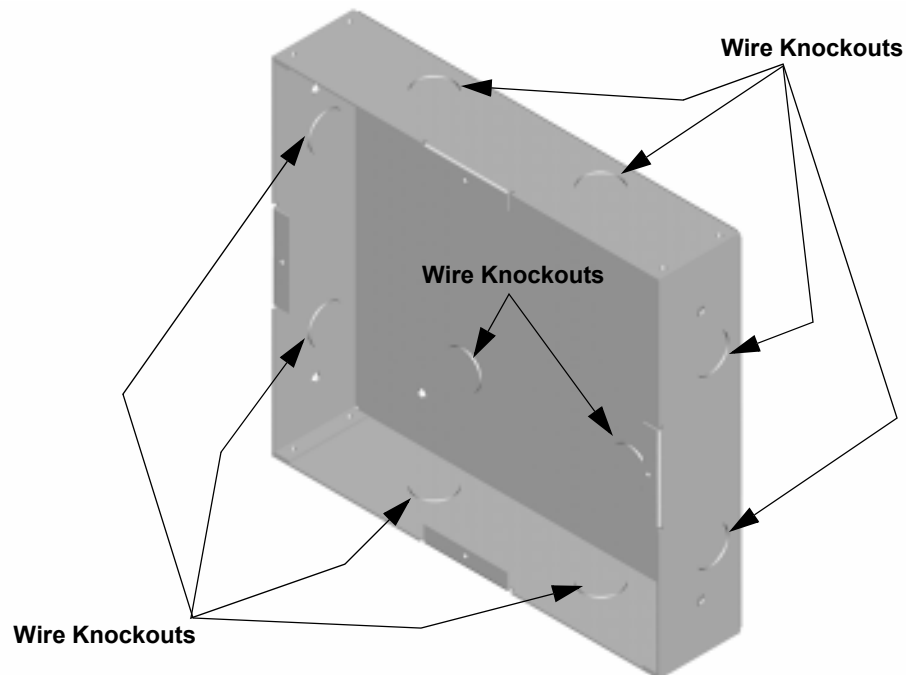

Figure 4-12 Back Box Knockout Locations
2. Remove knockout holes as needed for wires. See Figure 4-12 for backbox knockout locations.
1. Remove the desired knock out. See Figure 4-12.